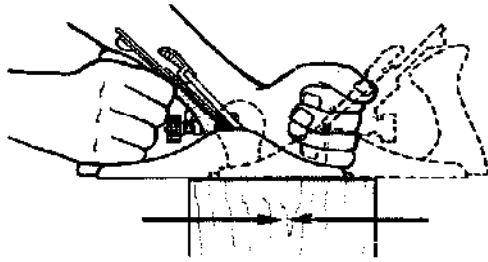
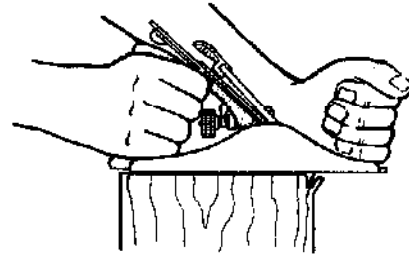

Fig. 8-31 Plane end grain halfway from each edge.
Fig. 8-32 If the plane is pushed all the way, the corners will break.
3. Place the toe of the plane in contact with the surface to be planed. Plane toward the center of the board. Then reverse the plane and start planing from the opposite edge, again toward the center. See figure 8-31. Planing in this manner avoids splintering the edge as shown in figure 8-32.